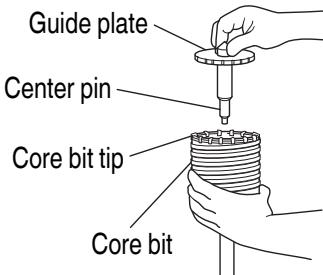

Fig. 34
- (3) Insert the center pin into the guide plate until it stops.
- (4) Engage the guide plate with the core bit, and turn the guide plate to the left or the right so that it does not fall even if it faces downward (**Fig. 34**).